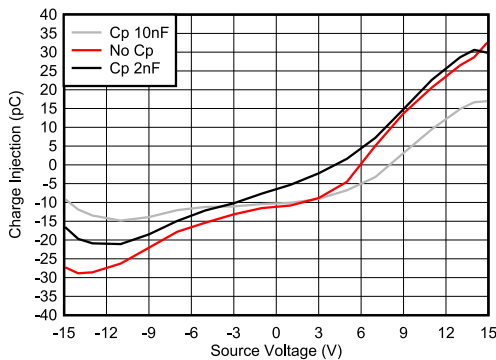

Figure 8-2. Charge Injection Compensation
The TMUX620x contains specialized architecture to reduce charge injection on the Drain (Dx). To further reduce charge injection in a sensitive application, a compensation capacitor (C_p) can be added on the Source (S). This will push excess charge from the switch transition into the compensation capacitor on the Source (S) instead of the Drain (D). As a general rule, C_p should be 20x larger than the equivalent load capacitance on the Drain (D). Figure 8-2 shows charge injection variation with different compensation capacitors on the Source side. This plot was captured on the TMUX6219 as part of the TMUX62xx family with a 100pF load capacitance.